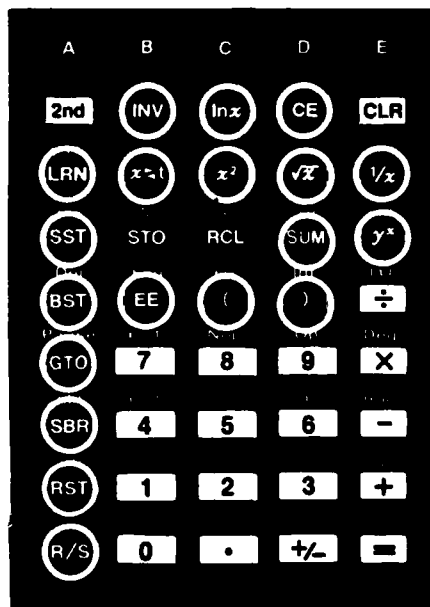

Figure 4. TI-59 keyboard preparation.
a. Equipment Malfunction. Table 5-1, TM 9-1220-242-12&P addresses some of the common equipment malfunctions and should be consulted when equipment problems are suspected. In some cases, the TM's corrective actions require keyboard operation using the manufacturer's (TI) designated key symbols. Some of the key symbols may be covered with tape. If the required key is covered, refer to figure 4, page 12-A to determine which key to press. The manufacturer's designed key functions are always present. The gunnery programs temporarily redefines the key's function for accomplishment of the gunnery related calculations.